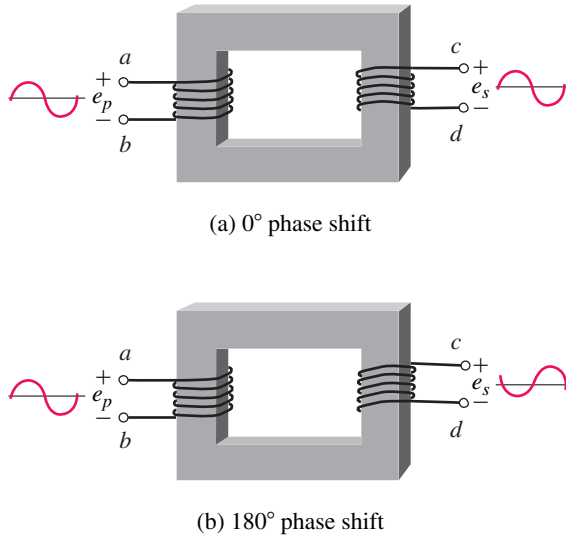

FIGURE 24-7 The relative direction of the windings determines the phase shift.
One of the advantages of a transformer is that it may be used to change the polarity of an ac voltage. This is illustrated in Figure 24-7 for a pair of iron-core transformers. For the transformer of (a) the primary and secondary volt-
where the relative polarity (in phase or 180° out of phase) is determined by the direction of the coil windings (Figure 24-7).
EXAMPLE 24-1 Suppose the transformer of Figure 24-7(a) has 500 turns on its primary and 1000 turns on its secondary.
EXAMPLE 24-2 If the transformers of Figure 24-7 have 600 turns on their primaries and 120 turns on their secondaries, and $\mathbf{E}_p = 120 \text{ V} \angle 0^\circ$, what is \mathbf{E}_s for each case?
Repeat Example 24-1 for the circuit of Figure 24-7(b) if $N_p = 1200$ turns and $N_s = 200$ turns.
2. For the transformers of Figure 24-7, if $a = 0.2$ and $E_s = 600 \text{ V} \angle -30^\circ$, what is E_p for each case?